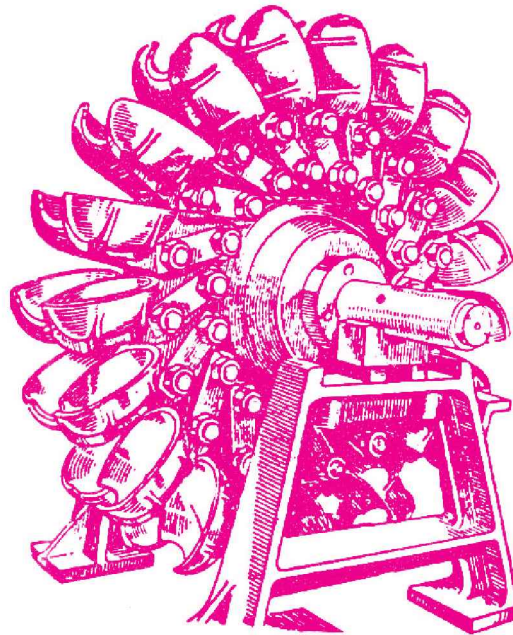

Fig. 18.3 *Runner of a pelton wheel.*
2. Runner with Buckets. Fig. 18.3 shows the runner of a Pelton wheel. It consists of a circular disc on the periphery of which a number of buckets evenly spaced are fixed. The shape of the buckets is of a double hemispherical cup or bowl. Each bucket is divided into two symmetrical parts by a dividing wall which is known as splitter.